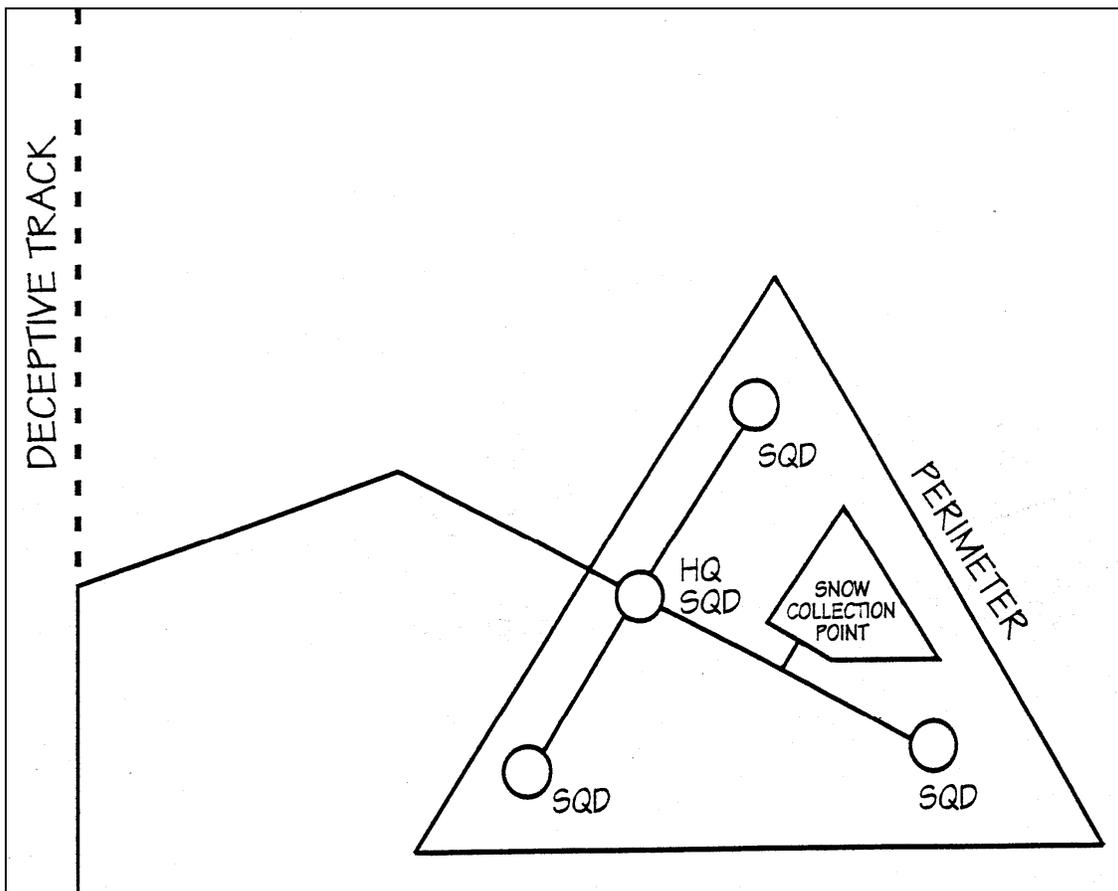

Figure 2: Platoon Patrol Base Track Plan
(1) Security Halt of the Unit. Before occupying a patrol base, it should be laid out by a reconnaissance or quartering party that precedes the main body. One thing that consistently gets overlooked is the posture of soldiers waiting in a security halt for the reconnaissance element to find/establish the patrol base site. Leaders that are left with the main body must ensure that soldiers remain warm while maintaining security. It may be appropriate to add layers of clothing, or have soldiers get up and move in buddy teams a few hundred meters back before returning and switching out with another buddy team. It may also be possible to send the security element forward prior to departure of the main body. In extreme cases it may be wise to move the entire element into the patrol base by force, though this should never be the norm. Leaders that are on the reconnaissance must move quickly and return as soon as possible to get the main body moving again. It is up to the unit to decide the method to use for conducting the reconnaissance. For squad size elements it may be best to occupy by force. For platoon sized elements, normally the Platoon leader, compass man, and one member of each squad should move forward to conduct a reconnaissance of the patrol base. Squad members can be positioned at the 10, 2 and 6 o'clock positions (see Figure 2) and act as guides for the main body. Regardless of the method used or the size of the unit, the reconnaissance party must leave a detailed contingency plan for the main body.
(2) Tasks that must be accomplished prior to the arrival of the main body include:
- Track plans (see figures 2, and 3) should be established before anyone enters the site. Normally, the incoming track will be extended well beyond the point where it enters the bivouac, and may lead to a dummy patrol base (see above). Branching off from the incoming track, preferably at an acute angle to the direction of the enemy, is the patrol base track, or "main street". This is the single track that enters the actual patrol base perimeter. Minor tracks are established leading off of main street to sub-unit areas where tents are located. Both inner and outer perimeter tracks are also established.